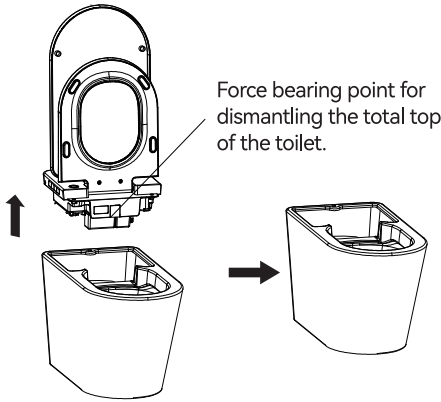

Figure 3
3. Grab the total top from the force bearing point to pull it up with strength to separate it from ceramic body. (Note: be careful not to apply force on other positions). As shown in Figure 3.